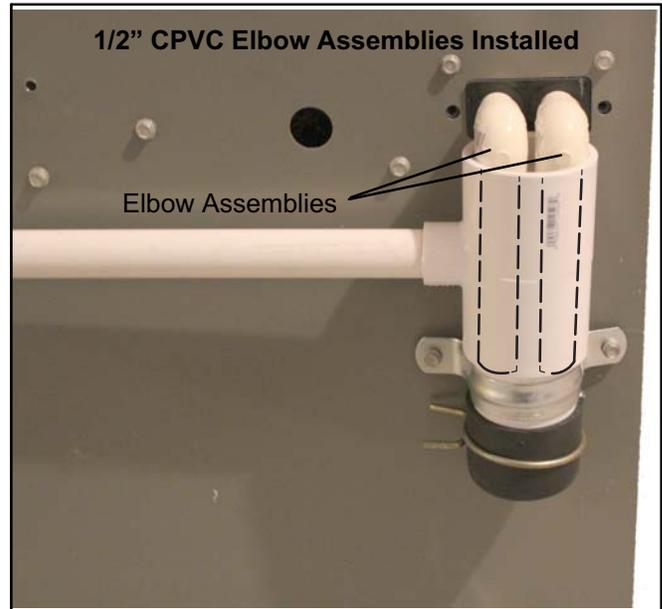

FIGURE 3
- 6 - Slide the tee assembly up onto the legs of the elbow assemblies until it touches the bottom of the 1/2" elbows. This will ensure an adequate water column to prevent flue gases from escaping into the home. See figure 3.